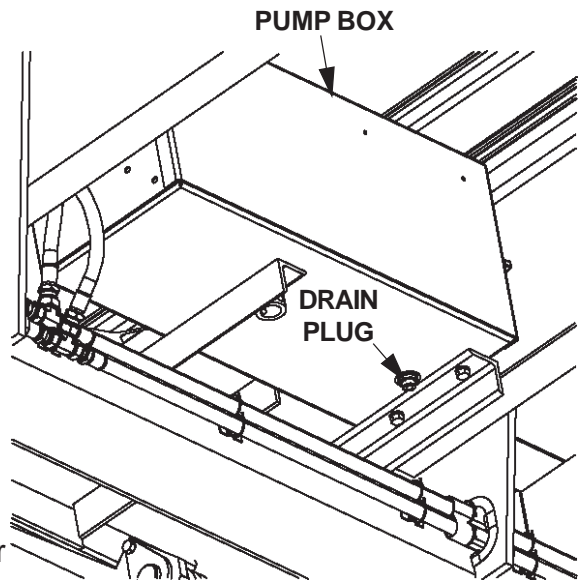

FIG. 1A
2. Open and raise Platform to vehicle bed height. Remove the Drain Plug (**FIG. 1A**). Drain hydraulic fluid.
5. Raise Platform to vehicle bed height. Check hydraulic fluid again and, if needed, add more hydraulic fluid (**FIG. 1A**).